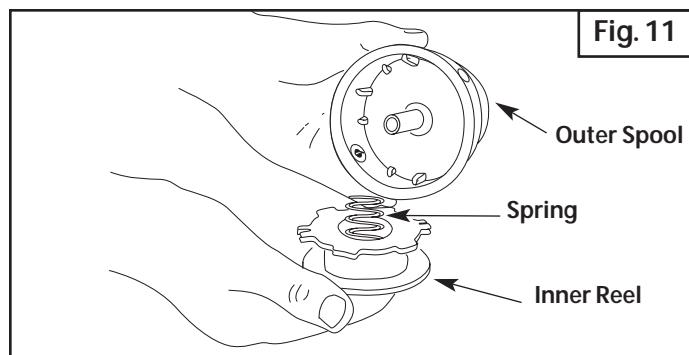

Fig. 11
2. Remove the inner reel from the outer spool (Fig. 11).
3. Remove spring from the inner reel (Fig. 11).
2. Remove the old inner reel from the outer spool (Fig. 11).
3. Remove the spring from the old inner reel (Fig. 11).